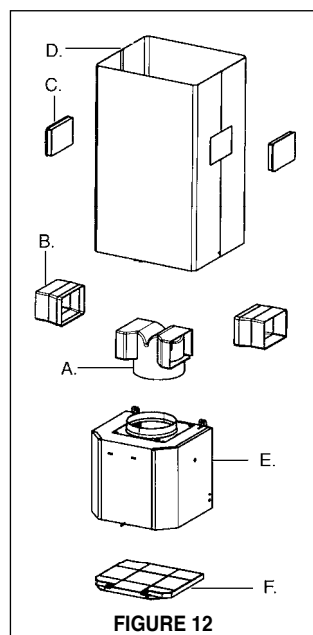
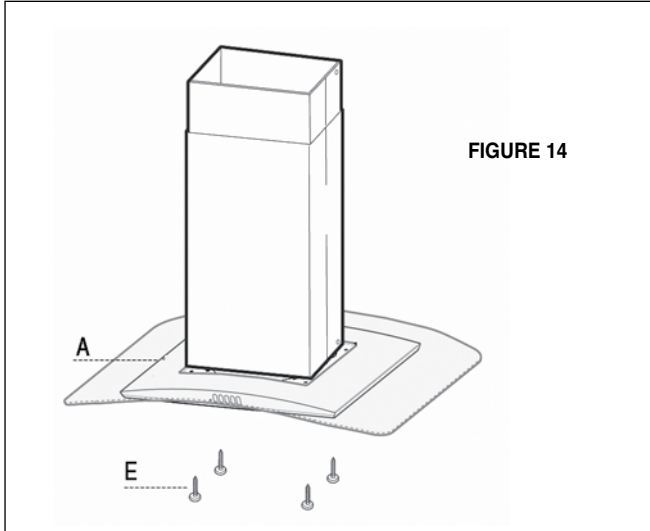
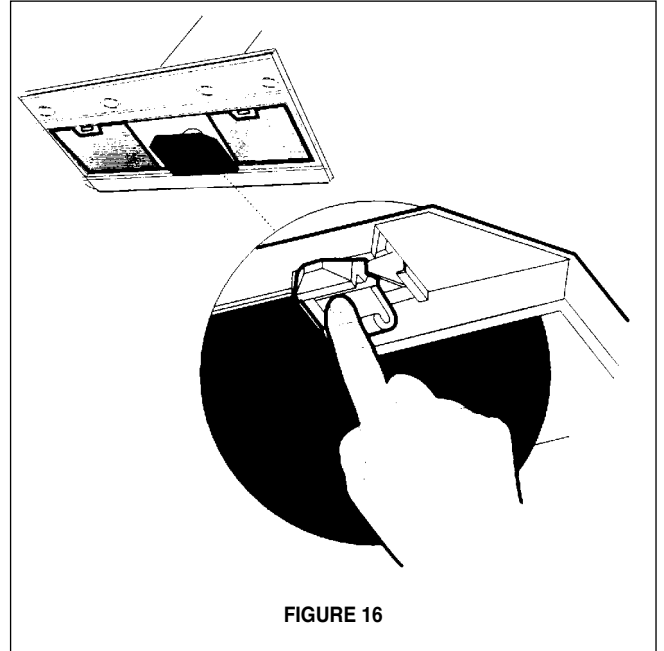

FIGURE 12
FIGURE 14
FIGURE 16
For ductless installations, line up the DUCTLESS DIVERTER EXTENSIONS HORIZONTAL (**B in FIGURE 12**) with the holes in the LOWER CHIMNEY COVER (**D in FIGURE 12**) and snap in the VENT GRIDS (**C in FIGURE 12**).
Ductless installations require a **Ductless Conversion Kit** whose components are pictured in **FIGURE 12**. Do not use the DAMPER (**M in FIGURE 1**) for ductless installations. The LOWER CHIMNEY COVER (**B in FIGURE 1**) should be discarded and replaced by the new one with holes from the **Ductless Conversion Kit (D in FIGURE 12)**.
As indicated in **FIGURE 12**, place the DUCTLESS DIVERTER (**A**) over the exhaust opening of the EASY CUBE (**E**). Fit the DUCTLESS DIVERTER EXTENSIONS HORIZONTAL (**B**) into the DIVERTER (**A**).
4. From below, attach the CANOPY SECTION (A in FIGURE 12) to the assembled chimney support using the four bolts provided (E in FIGURE 14).
For ductless installations, install the CHARCOAL FILTER (F in FIGURE 12) behind the center grease filter opening by inserting and locking into place. (See FIGURE 16)